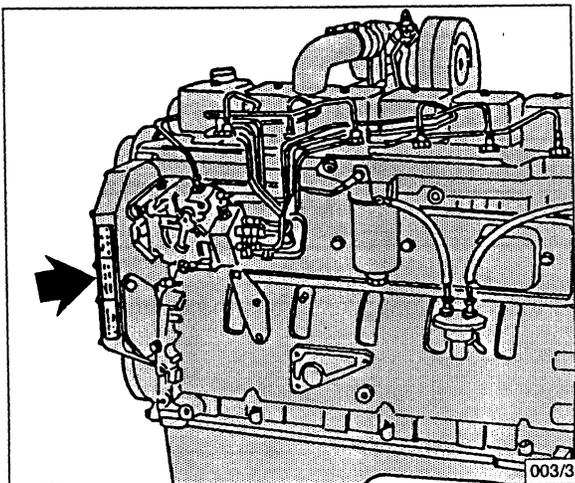

Fig. 17 Serial number of diesel engine
- c) serial number of diesel engine (fig. 17)